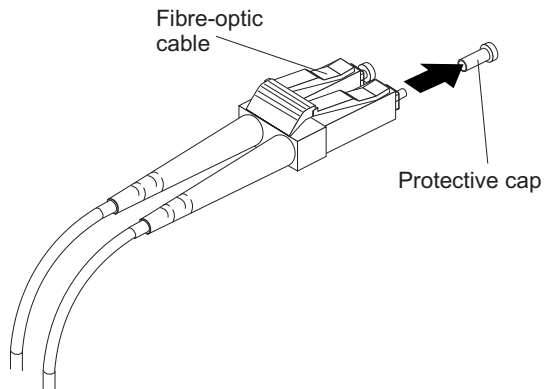

Figure 21. Removing fibre-optic cable protective caps
3. Remove the two protective caps from one end of the LC-LC cable, as shown in Figure 21. Save the protective caps for future use.